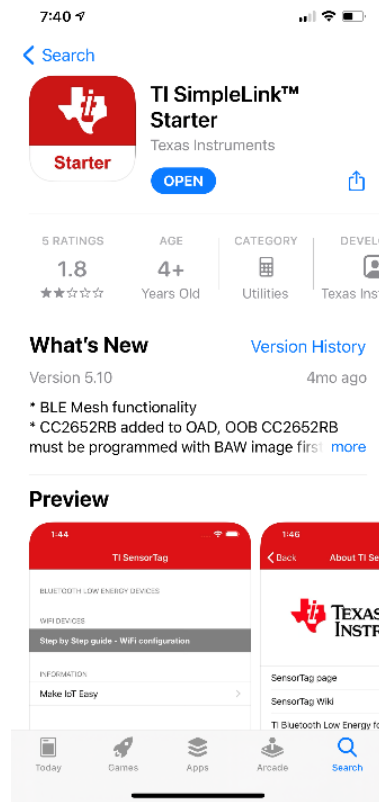

Figure 1 Recommended Bluetooth Scanner iOS Application
The Bluetooth Scanner application (see Figure 1) needs to be installed on your iOS device (iPAD or iPhone) to perform SPM-010 settings and WS-010 sensor calibration.
3. iOS device with installed Bluetooth Scanner application (see Figure 1).